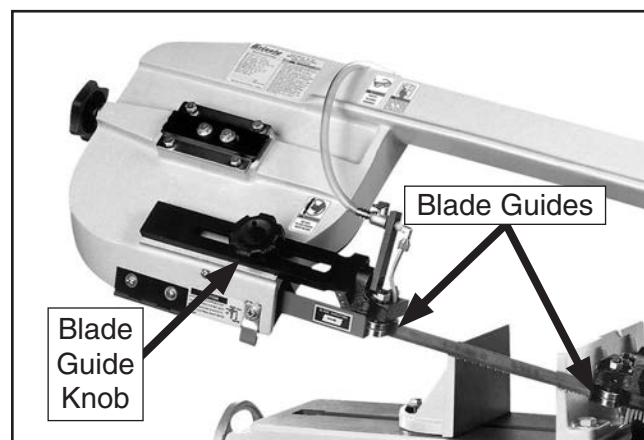

Figure 37. Location of blade guide knob.
1. Loosen blade guide knob shown in **Figure 37**.